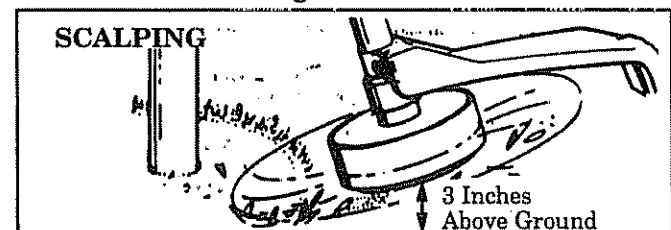

Figure 8
2. **SCALPING** - FIGURE 8. The scalping technique removes unwanted vegetation. Hold bottom of the trimmer head about 3" (7.5 cm) above ground and at an angle. Allow the tip of the line to strike the ground around trees, posts, monuments, etc. This technique increases line wear.